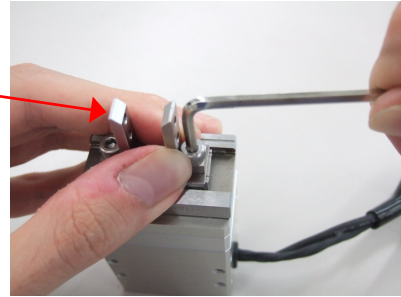

Fig. 12
- When installing and uninstalling the fingers, surely support them to prevent applying excessive force to or impacting on the guide block. (Fig.12)